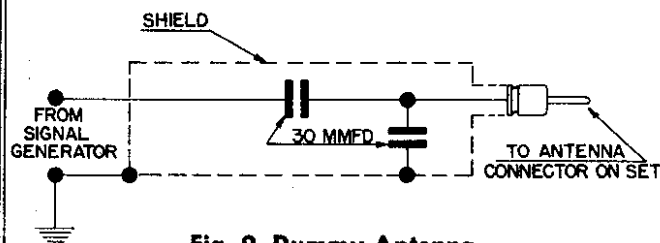

Fig. 9. Dummy Antenna
Fig. 9 shows the schematic of a recommended dummy antenna, closely resembling actual antenna capacity, to be used in series with signal generator leads when aligning the R.F. section of the receiver.
1. Connect signal generator leads through dummy, illustrated in Fig. 9, to antenna lead in socket on receiver. This is important.
2. Connect signal generator leads through dummy, illustrated in Fig. 9, to antenna receptacle on the receiver.